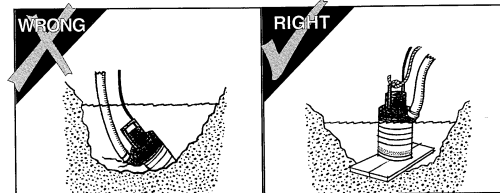

FIG. 13
**NEVER** position the pump directly on a soft, loose bottom. To attain maximum capacity and prevent excessive wear, position the pump so it will not burrow itself into sand or clay. Stand the pump on a plank, a bed of coarse gravel, within a perforated container, on a suitable floatation device, or retain it hanging freely by a lifting cable. (FIG. 13)